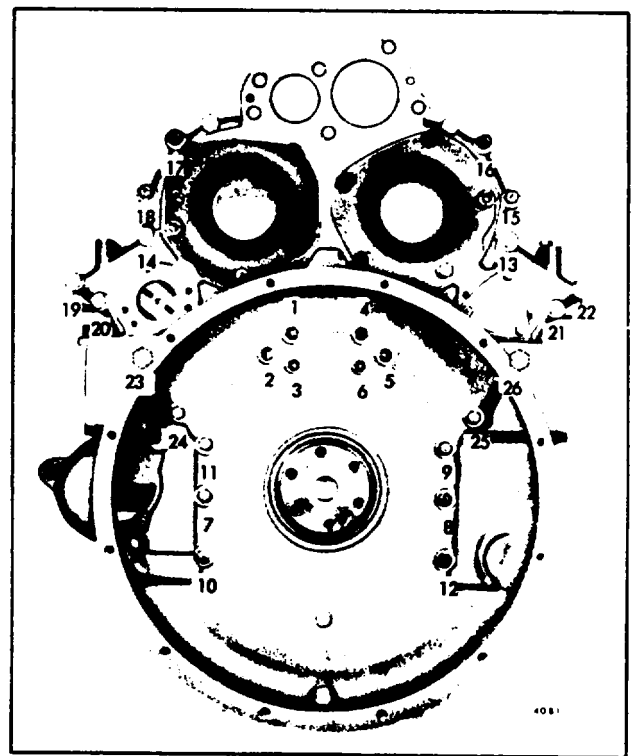

Fig. 3. Flywheel Housing Bolt Tightening Sequence (Operation 1)--6V (Engine
8. Start at No. 4 on a right-hand rotation engine and draw the bolts up snug in the sequence shown in Fig. 3.